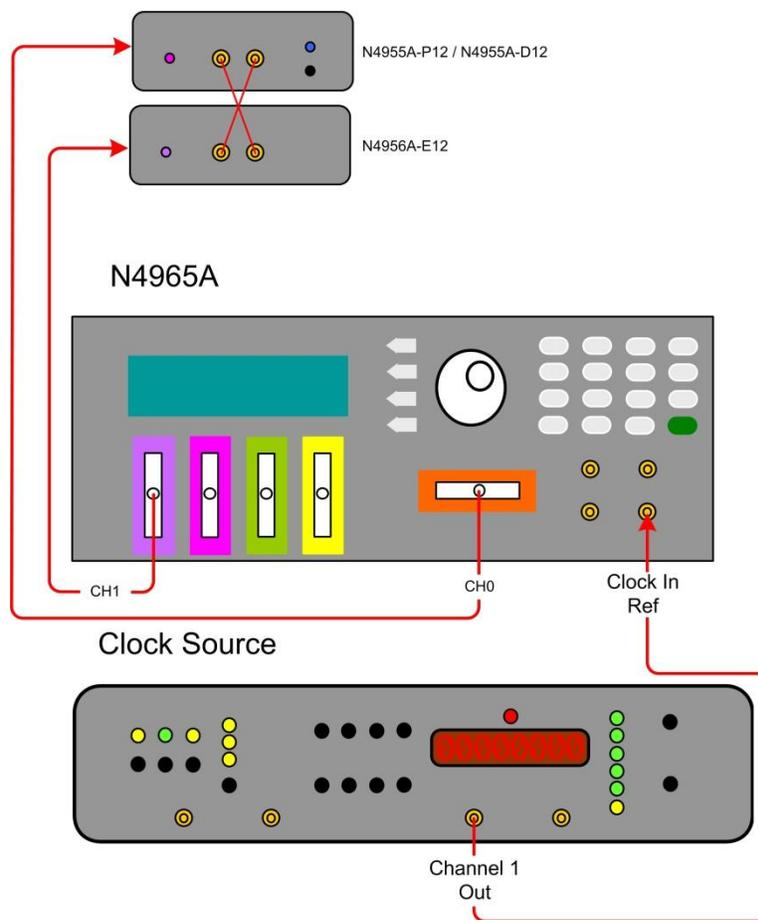

Figure 5. N4956A-E12 installation setup
3. Connect the remote heads and clock source to the N4965A controller as shown in Figure 5.